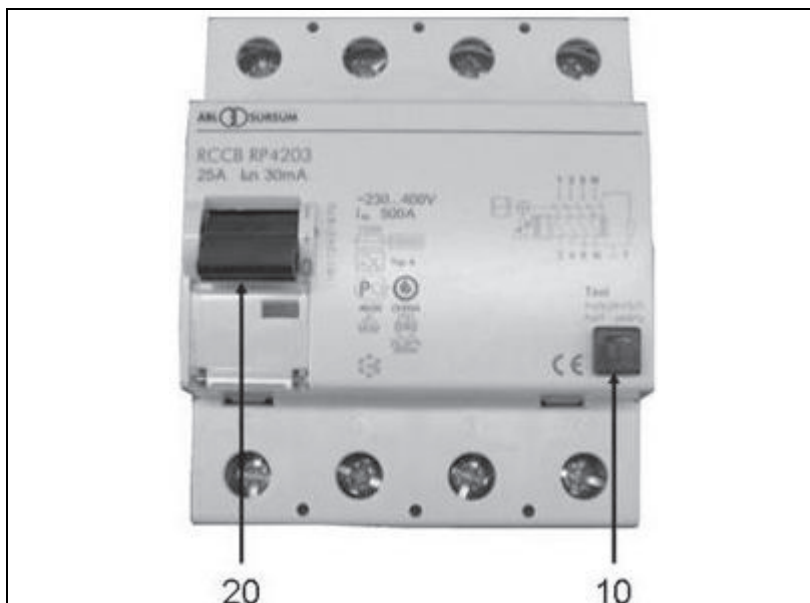

Figure 5-1: FI protection switch
2. The user must also check the mechanical operation of the release every working day by activating the test button on the residual current protection device (RCD) (see *Figure 5-1-(10)*).
2. Move the protection switch (see Figure 5-1-(20)) into Pos. 1.
3. Activate the test switch (see Figure 5-1-(10)).
- ✓ The switch position displays the result (see Figure 5-1-(20)):